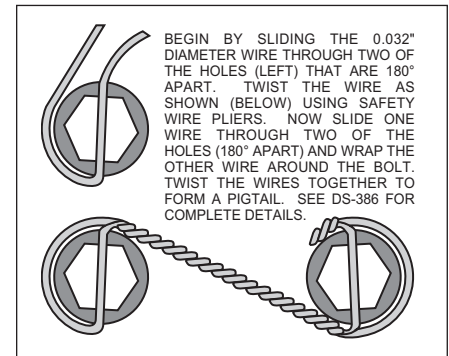
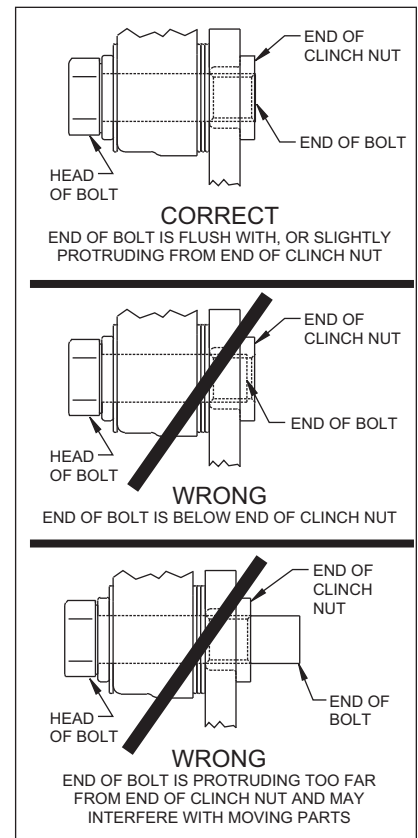

Figure 4. Safety Wire Diagram
Figure 5.
•With the slot pointing upward and the mounting ears pointing towards the rear of the vehicle, install the caliper mounting bracket (1) to the housing flange using the stock Original Equipment Manufacturer (OEM) bolts and nuts. Stock OEM hex nuts that retain the bracket (1) should be on the wheel side of the bracket. Apply red *Loctite*® 271 to the stock OEM bolt threads and torque to OEM specifications. **NOTE:** Some brackets act as the bearing retainers, while others help locate the bearing in the axle housing flange. If the stock bearing plates are still on the axle, the caliper mounting brackets (1) should be located between the axle housing flange and the bearing retainer plate. Make sure the heads of the caliper mounting bracket insert nuts are FACING OUTWARD TOWARDS THE WHEEL.
•The rotor (3) has two sides. A flat side and an inset side. Bolt hat (2) to flat side of rotor (3) by sliding one of the T-nut's (4) into the "T" slot on the hat and attaching the rotor using a lock washer (5) and bolt (6) through the mounting holes in the rotor (3) into the corresponding hole in the T-nut (4). Finger tighten only at this time. Repeat this procedure for the remaining T-nut's, lock washers and bolts. Insert the T-nut tool (supplied in the bolt kit) into the slot between the T-nut (4) and hat (2) up to the flat spot on the T-nut tool shaft. Torque bolt (6) to 198 **in-lb**. Remove T-nut tool and insert into T-nut slot on opposite side of hat and torque bolt (6) to 198 **in-lb**. Repeat until all T-nuts (4) have been tightened and torqued to proper specification. **NOTE:** Reference Wilwood data sheet DS-440 (supplied with this document) for additional information if necessary. Safety wire bolts (6) using standard 0.032 inch diameter stainless steel safety wire as shown in Figure 4. Please refer to Wilwood's data sheet DS-386 (available at www.wilwood.com/Pdf/DataSheets/ds386.pdf) for complete safety wire installation instructions.
•Align the correct hole pattern in the hat (2) with the stud pattern on the axle flange. **NOTE:** Some OEM and after market axles come with stud sizes larger than 0.50" diameter. Verify stud size and have a qualified machine shop drill the hats to the correct size, if applicable (the hats utilized in this kit are drilled for 0.69" diameter wheel studs). Slide the hat/rotor assembly (2 and 3) over the wheel studs and against the axle flange face.
•**NOTE:** Please reference the caution statement at the beginning of the assembly instructions. WITH THE BLEED SCREWS POINTING UP, mount the caliper (7) over the rotor (3) and onto the caliper mounting bracket (1) using washers (8) and mounting bolts (9). View the rotor through the top opening of the caliper. The rotor should be aligned in the center of the caliper. If not, adjust the caliper by using 0.032 inch shims (10) by placing them between the caliper mounting bracket (1) and the caliper (7). Add as many shim washers (10) as necessary to achieve the correct alignment. **NOTE:** The end of the bolt must be flush with or slightly protruding from the head of the clinch nut. See Figure 5. Place spare shims (10) between washer and caliper mounting ear to achieve the proper mounting fastener configuration. Always use the same amount of shims on both the top and bottom caliper mounting bolts (9). Apply red *Loctite*® 271 to the mounting bolt threads (9), torque to 30 ft-lb. Safety wire the caliper mounting bolts (9).
•Position the Wilwood disc brake pads (11) into the caliper (7) and fasten with cotter pin (12). Steel backing plate side of brake pad should face the caliper pistons.